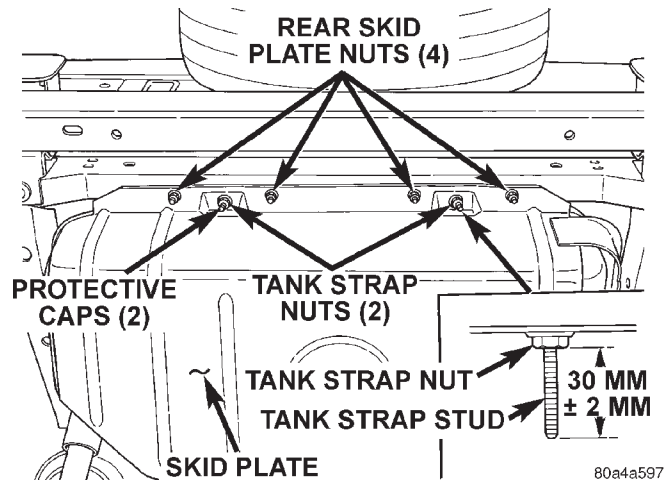

Fig. 36 Fuel Tank Mounting Nuts—Rear
- (12) Remove four skid plate-to-body nuts at rear of tank (Fig. 36). **Do not loosen tank strap nuts (Fig. 36).**
(17) To separate tank from skid plate, remove two protective caps at tank strap studs (Fig. 36) and remove tank strap nuts.
(18) Remove both straps and remove tank from skid plate.
(1) Place fuel tank into skid plate. Wrap straps around tank with strap studs inserted through holes in skid plate. Tighten strap nuts to attain 30 mm (± 2 mm) between bottom of nut to end of strap stud (Fig. 36). **Do not over tighten nuts.**
(2) Install two protective caps to tank strap studs.
(3) Connect fuel filler hoses at tank. Tighten hose clamps.
(4) Raise skid plate/fuel tank assembly into position on body while guiding filler hoses.
(5) Install 7 skid plate mounting nuts. Tighten to 16 N·m (141 in. lbs.) torque.
(6) Remove tank jacking device.
(7) Connect electrical connector at front of fuel tank.